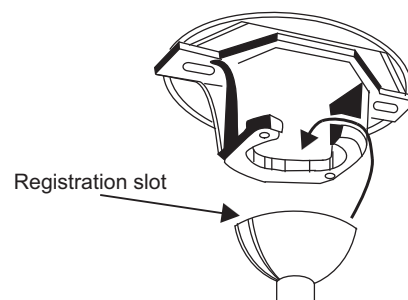

Figure 8
**Step 9.** Place the downrod ball into the hanger bracket socket. (Fig. 8)